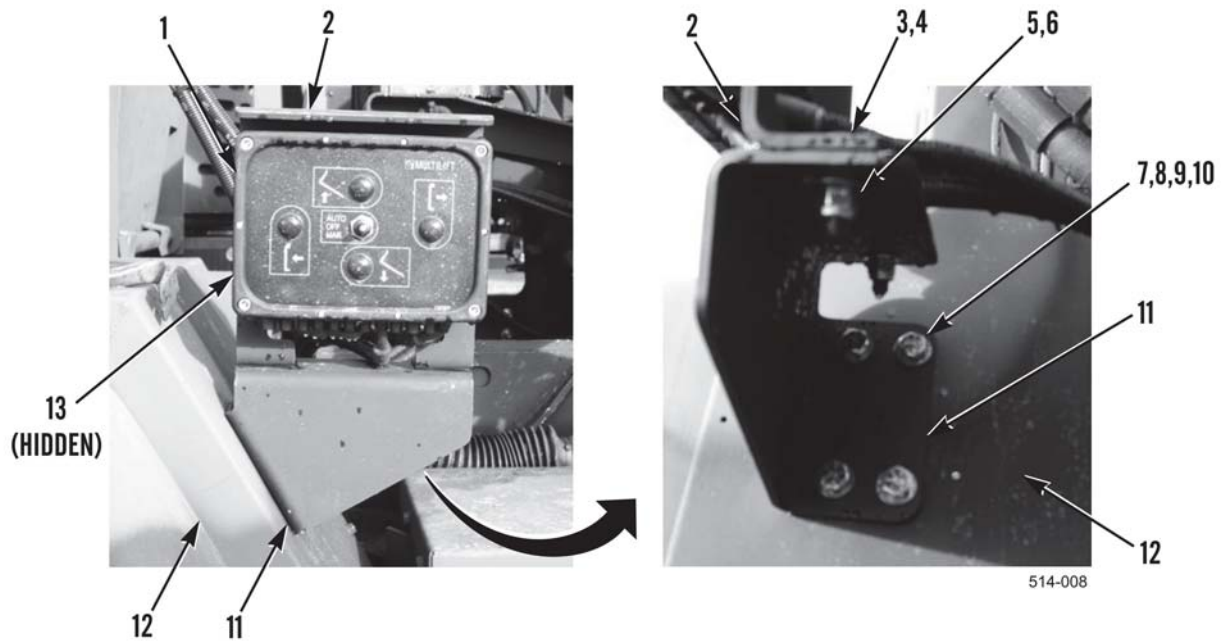

Figure 4. PLS M1075A1 Stowage Control Unit Removal.
3. Remove four bolts (Figure 4, Item 13) and stowage control unit (Figure 4, Item 1) from backplate (Figure 4, Item 2).
4. Remove two locknuts (Figure 4, Item 6), washers (Figure 4, Item 5), bolts (Figure 4, Item 3), washers (Figure 4, Item 4), and backplate (Figure 4, Item 2) from bracket (Figure 4, Item 11). Discard locknuts.
5. Remove four locknuts (Figure 4, Item 7), washers (Figure 4, Item 8), bolts (Figure 4, Item 9), washers (Figure 4, Item 10), and bracket (Figure 4, Item 11) from fender (Figure 4, Item 12). Discard locknuts.
3. Install bracket (Figure 4, Item 11), four washers (Figure 4, Item 10), bolts (Figure 4, Item 9), washers (Figure 4, Item 8), and new locknuts (Figure 4, Item 7) on fender (Figure 4, Item 12).
4. Install backplate (Figure 4, Item 2), two washers (Figure 4, Item 4), bolts (Figure 4, Item 3), washers (Figure 4, Item 5), and new locknuts (Figure 4, Item 6) on bracket (Figure 4, Item 11).
5. Install stowage control unit (Figure 4, Item 1) and four bolts (Figure 4, Item 13) on backplate (Figure 4, Item 2).